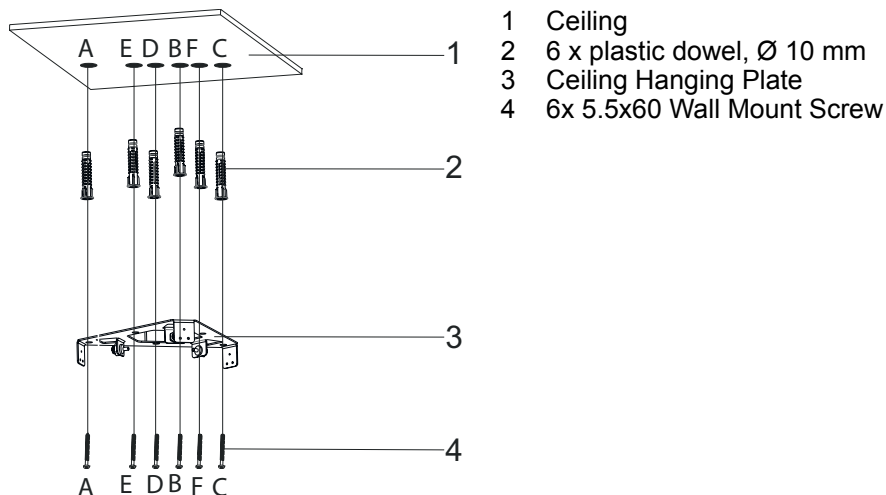

Fig. 11
1. ➤ Drill the surface where product will be installed from the points A, B, C, D with Ø10 mm drill (Fig. 11).
2. ➤ Insert Ø10 mm plastic dowels into the drilled points A,B,C,D,E,F (Fig. 11).
3. ➤ Install the Ceiling Connection plate to the ceiling at points A,B,C,D,E,F with 5.5x60 screws (4) (Fig. 11).